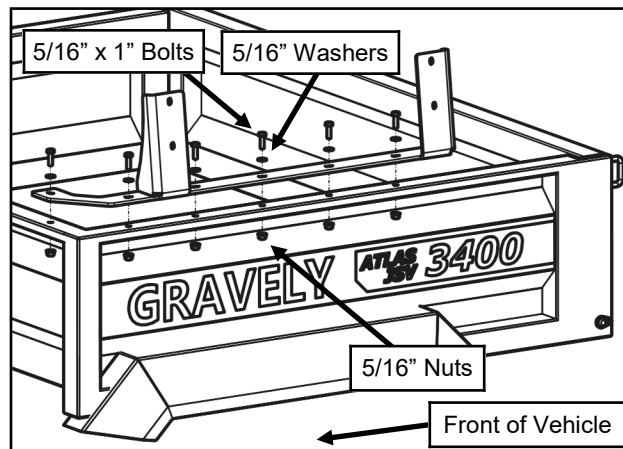

Fig. 17; Tool Bar Mounting Hardware
2. Using the tool bar mounting bracket as a template, mark the center of the (6) slots.
5. Fasten the left side tool bar mounting bracket using the (6) supplied 5/16" x 1" bolts, (6) 5/16" washers and (6) 5/16" flange nuts. See figure 17.